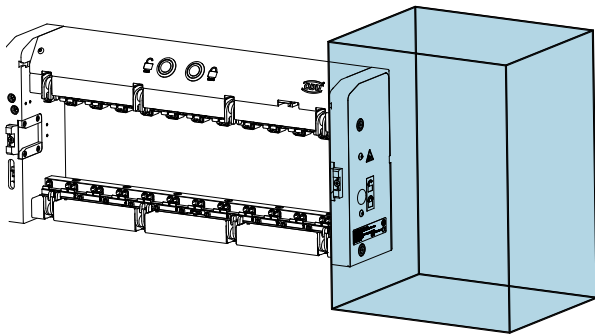

Fig. 196
- In order to actuate the emergency release, it is necessary to ensure during the design phase that there is a freely accessible area on the side of the receiver. [Fig.196]